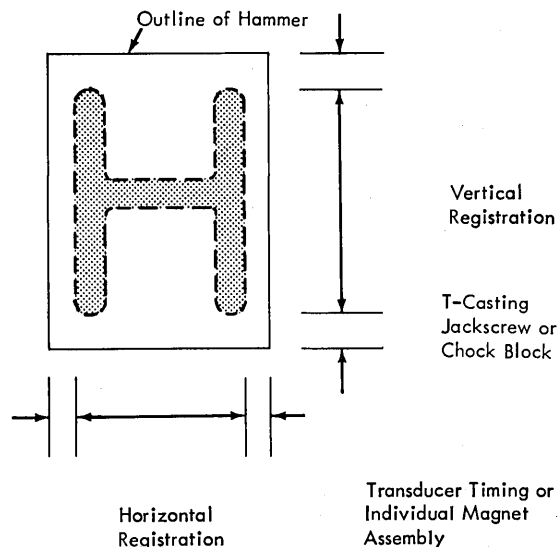

Figure 4-40. Print Registration
- g. Examine the fourth copy. The outline of each hammer and the relative position of each printed character to the hammer can thus be examined and evaluated (Figure 4-40).